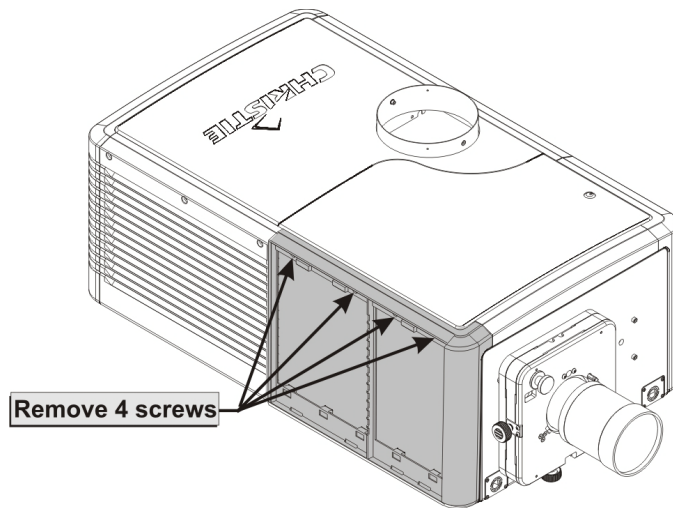

Figure 13 Remove Access Panel Frame
- Remove the 4 screws securing the access panel frame, which is located on the input side of the projector (**Figure 13**).